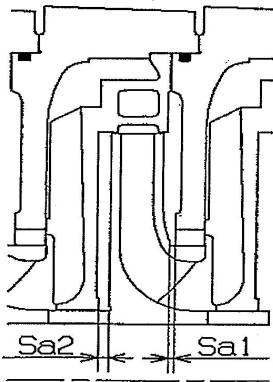

Fig.10 Total Axial Play
2. Insert key (9400.2) and packing sleeve (5240) with O-ring (4120.3)
3. Insert key (9400.3) for 1st stage impeller, slip 1st impeller (2300) onto the counter-drive end of the shaft (2100).
8. After mounting each stage check the overall axial clearance  $Sa1+Sa2$  (6.5 mm) of the impeller. (Fig.10)